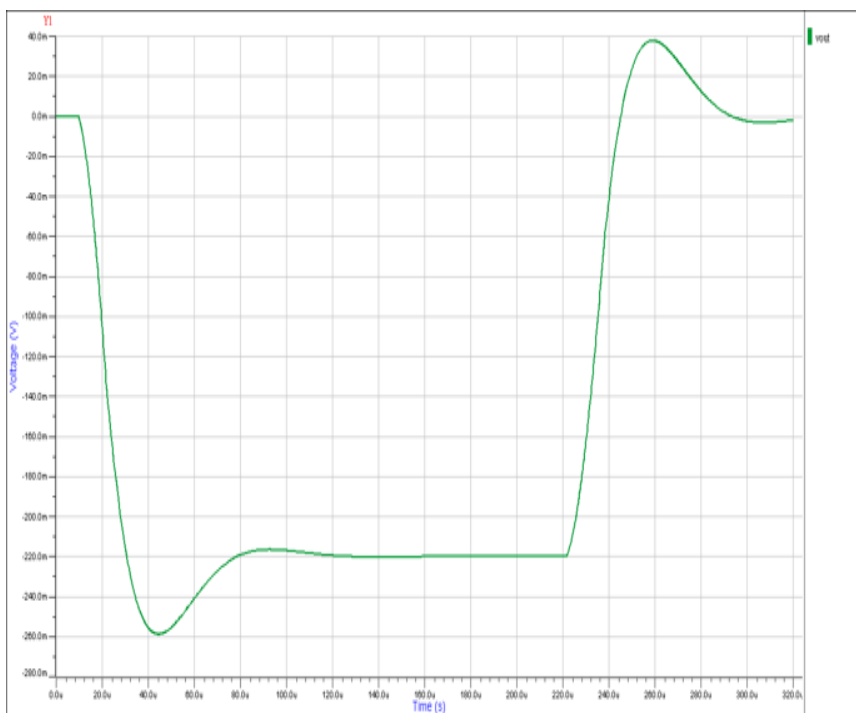

Figure 4 – Single RL model with DC offset
8. Observe the VOUT results in time domain, shown in Figure 4. If you are only going to make the RL model, and the magnitude is too high, reduce the value of L. Sweep the value of L if needed to determine an optimal value. This is the minimum RL model, and because the R is needed to dampen the inductor voltage, you will have a DC offset.